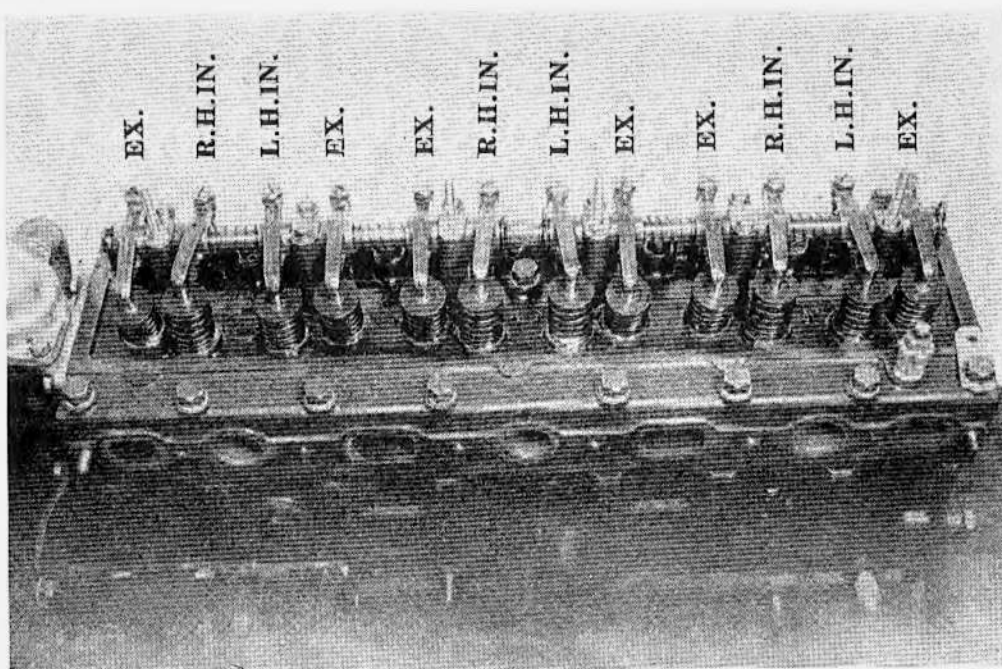

Figure 28 - Valve Rocker Arms Correctly Assembled
(5) Install twelve valve lifters in right side of block and drop the twelve push rods down through the openings in the cylinder head and seat them in the lifters.
(6) Drop oil delivery pipe down through the openings in the cylinder head and tighten it to oil delivery union of block.
(7) Place two rocker shaft assemblies on the cylinder head so that the studs on the cylinder head will be the respective supports on each shaft.
(8) Install four bolts and two stud nuts which retain each rocker shaft assembly to cylinder head and tighten evenly to 30~45 foot-pounds torque. Place the oil connect sleeve, spring, union over open ends of the two rocker shaft assemblies.
(9) Connect oil delivery pipe to rocker shaft oil delivery union and tighten securely. Figure 28 shows rocker arm and shaft assemblies correctly installed on head.